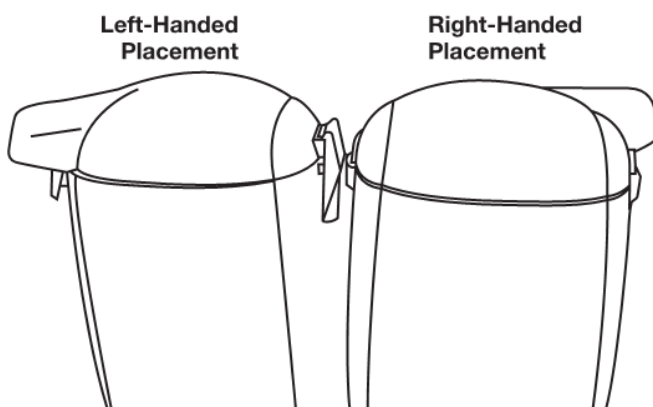

Fig 5
8. The canister lid can be replaced on the unit with the hose opening on the right or left, as per your preference (Fig. 5).